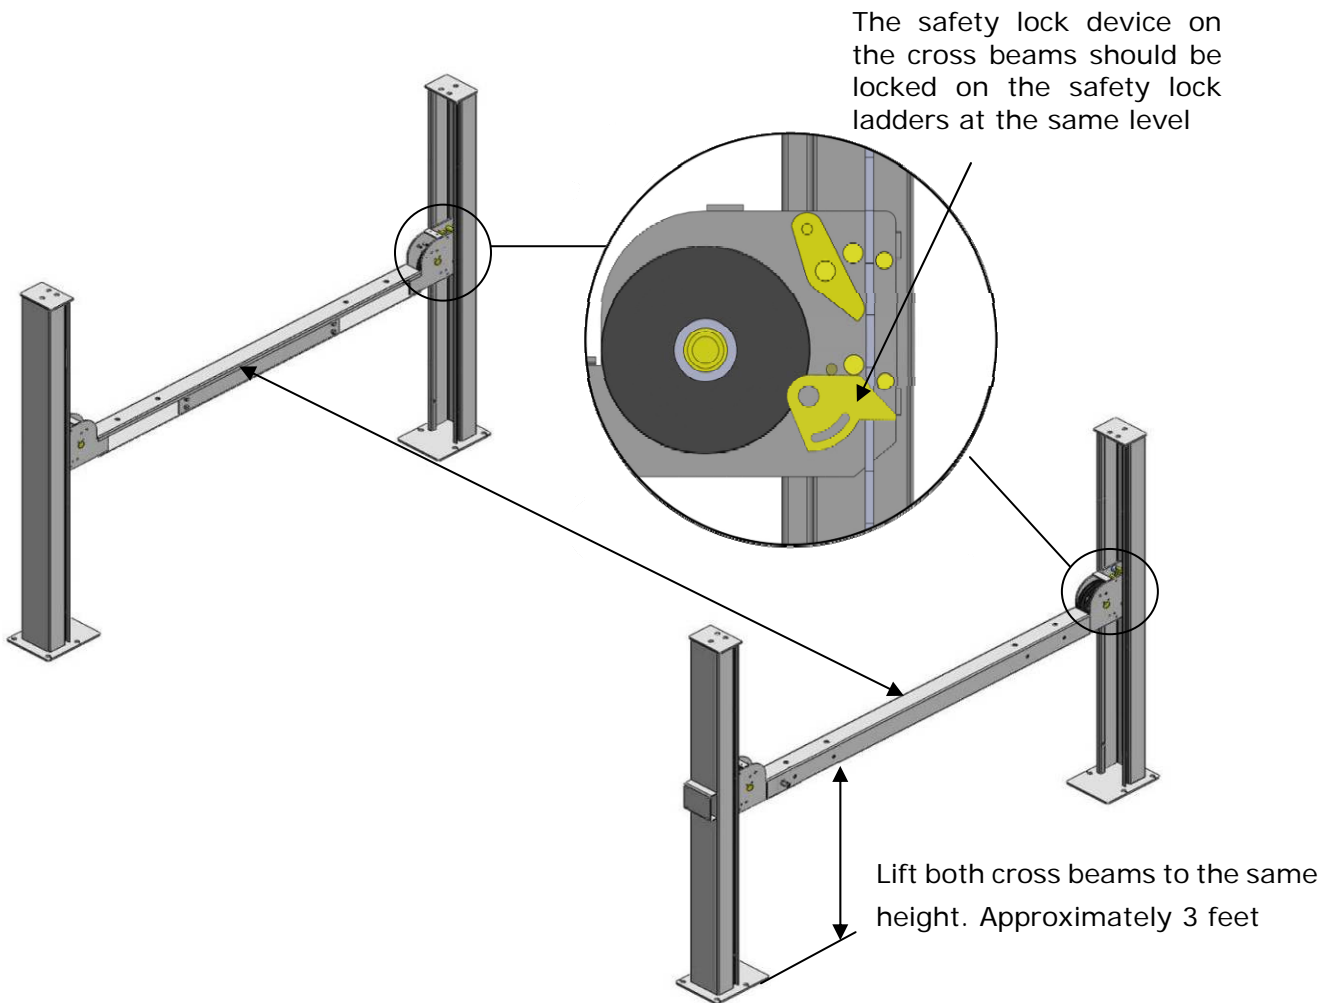

Fig. 14
E. Install the cross beams at the same height and lock on the safety lock ladders (See Fig. 14).